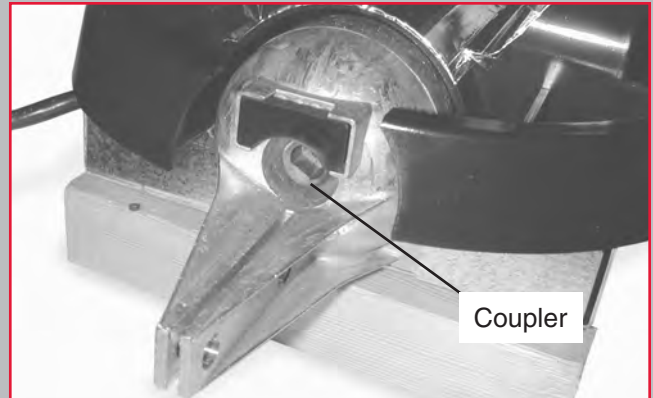

Fig. 1-1 Install rubber bumper and coupler
1. Install coupler [46] (Fig. 1-1).